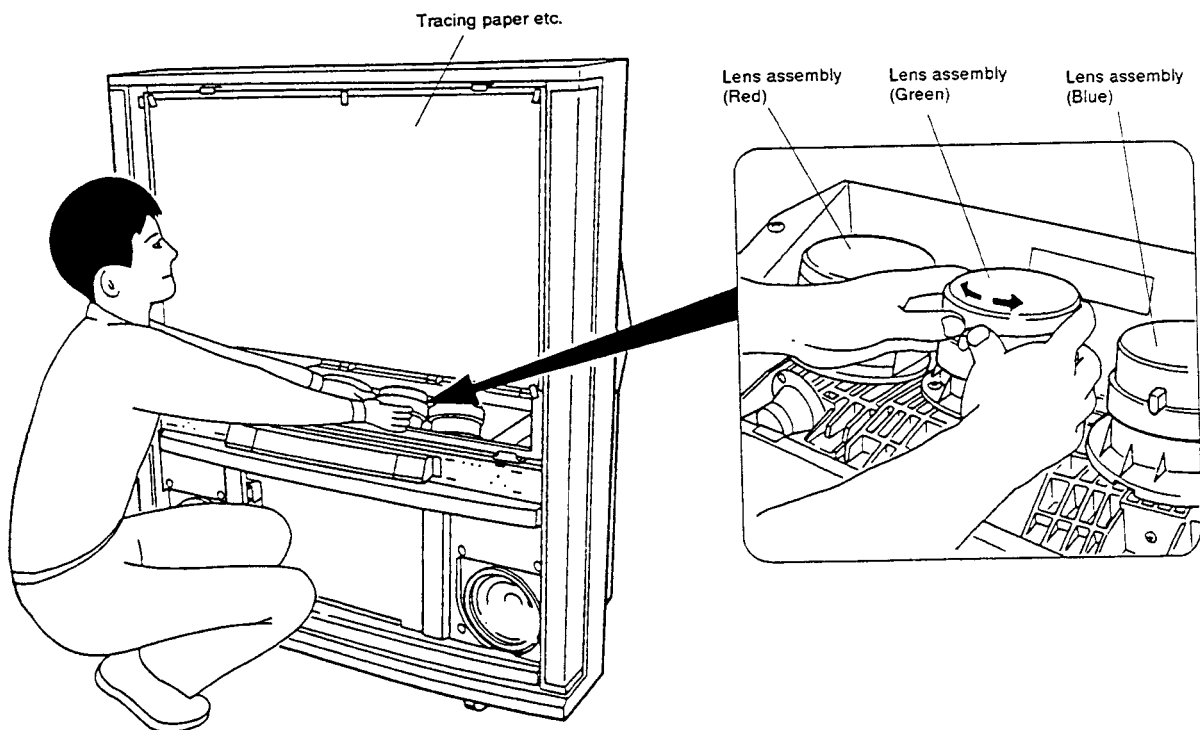

Fig. 9-9 Adjustment point (2)
- Remove the lenticular sheet, and attach tracing paper with a plastic tape, etc. instead. (Refer to Fig. 9-9.) Adjust the focus of the lens assembly newly mounted, by observing the picture shown on the tracing paper.